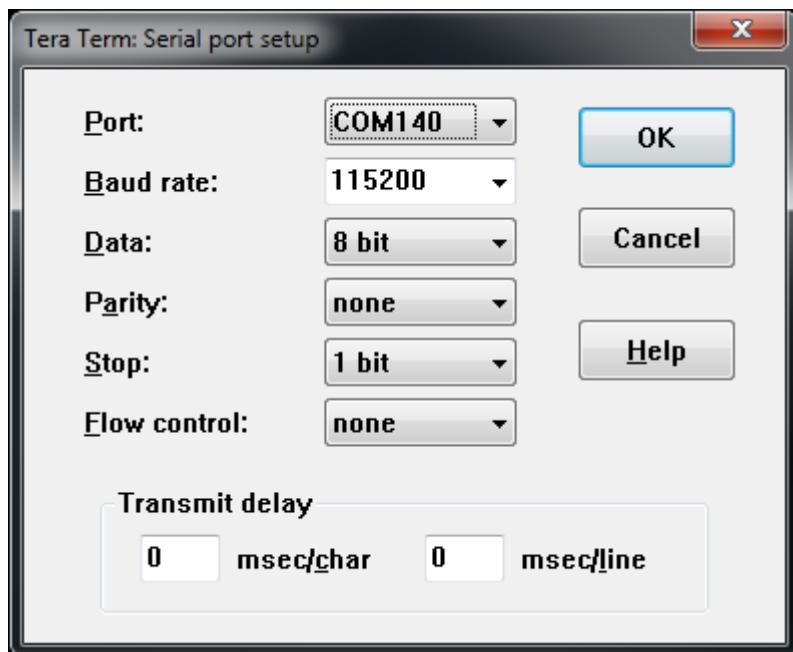

Figure 11. Serial port setting configuration
- 18) Set the **Baud rate**, **Data**, **Parity**, **Stop** and **Flow control** parameters (see Figure 11). Leave the **Transmit delay** fields with default values (0), and click **OK**.